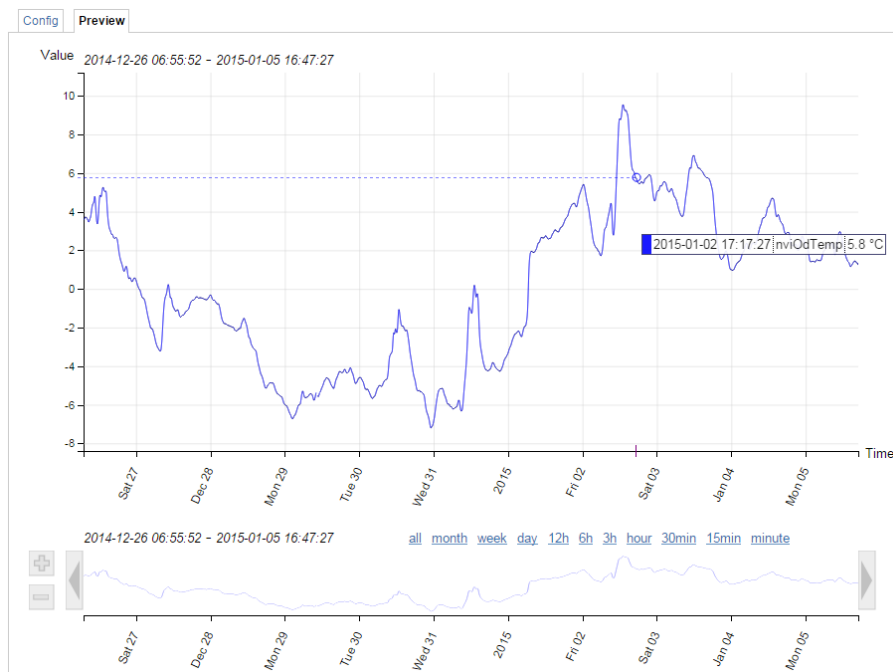

Figure 19: New trend chart on the Web UI
- The trend log configuration on the Web UI now also provides a preview tab, which shows a chart of the trend log data. The trend chart allows zoom, scrolling and hiding specific data curves, as shown in Figure 19.